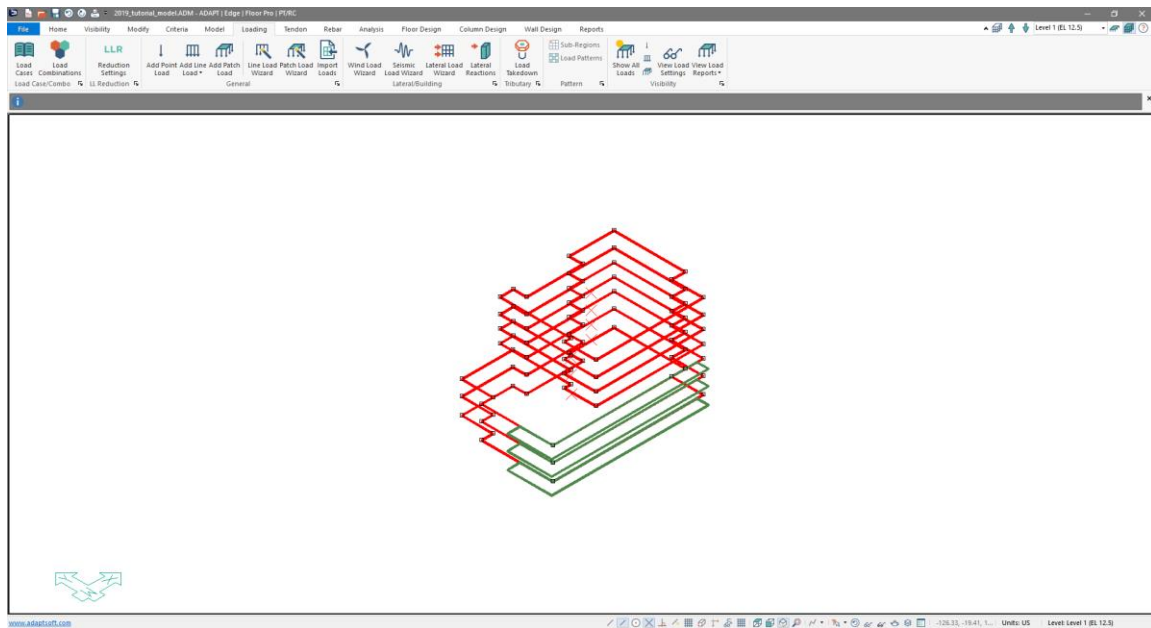

Figure 7-7
- Hold the *Ctrl* key on your keyboard and *Left-click* on each main slab region to select all the main slab regions of the model. Make sure you do not select the balcony slabs on Levels 1 through 3 as the balcony does not have the cladding load on it. Once all the main slabs regions are selected the screen should look similar to **FIGURE 7-7**.